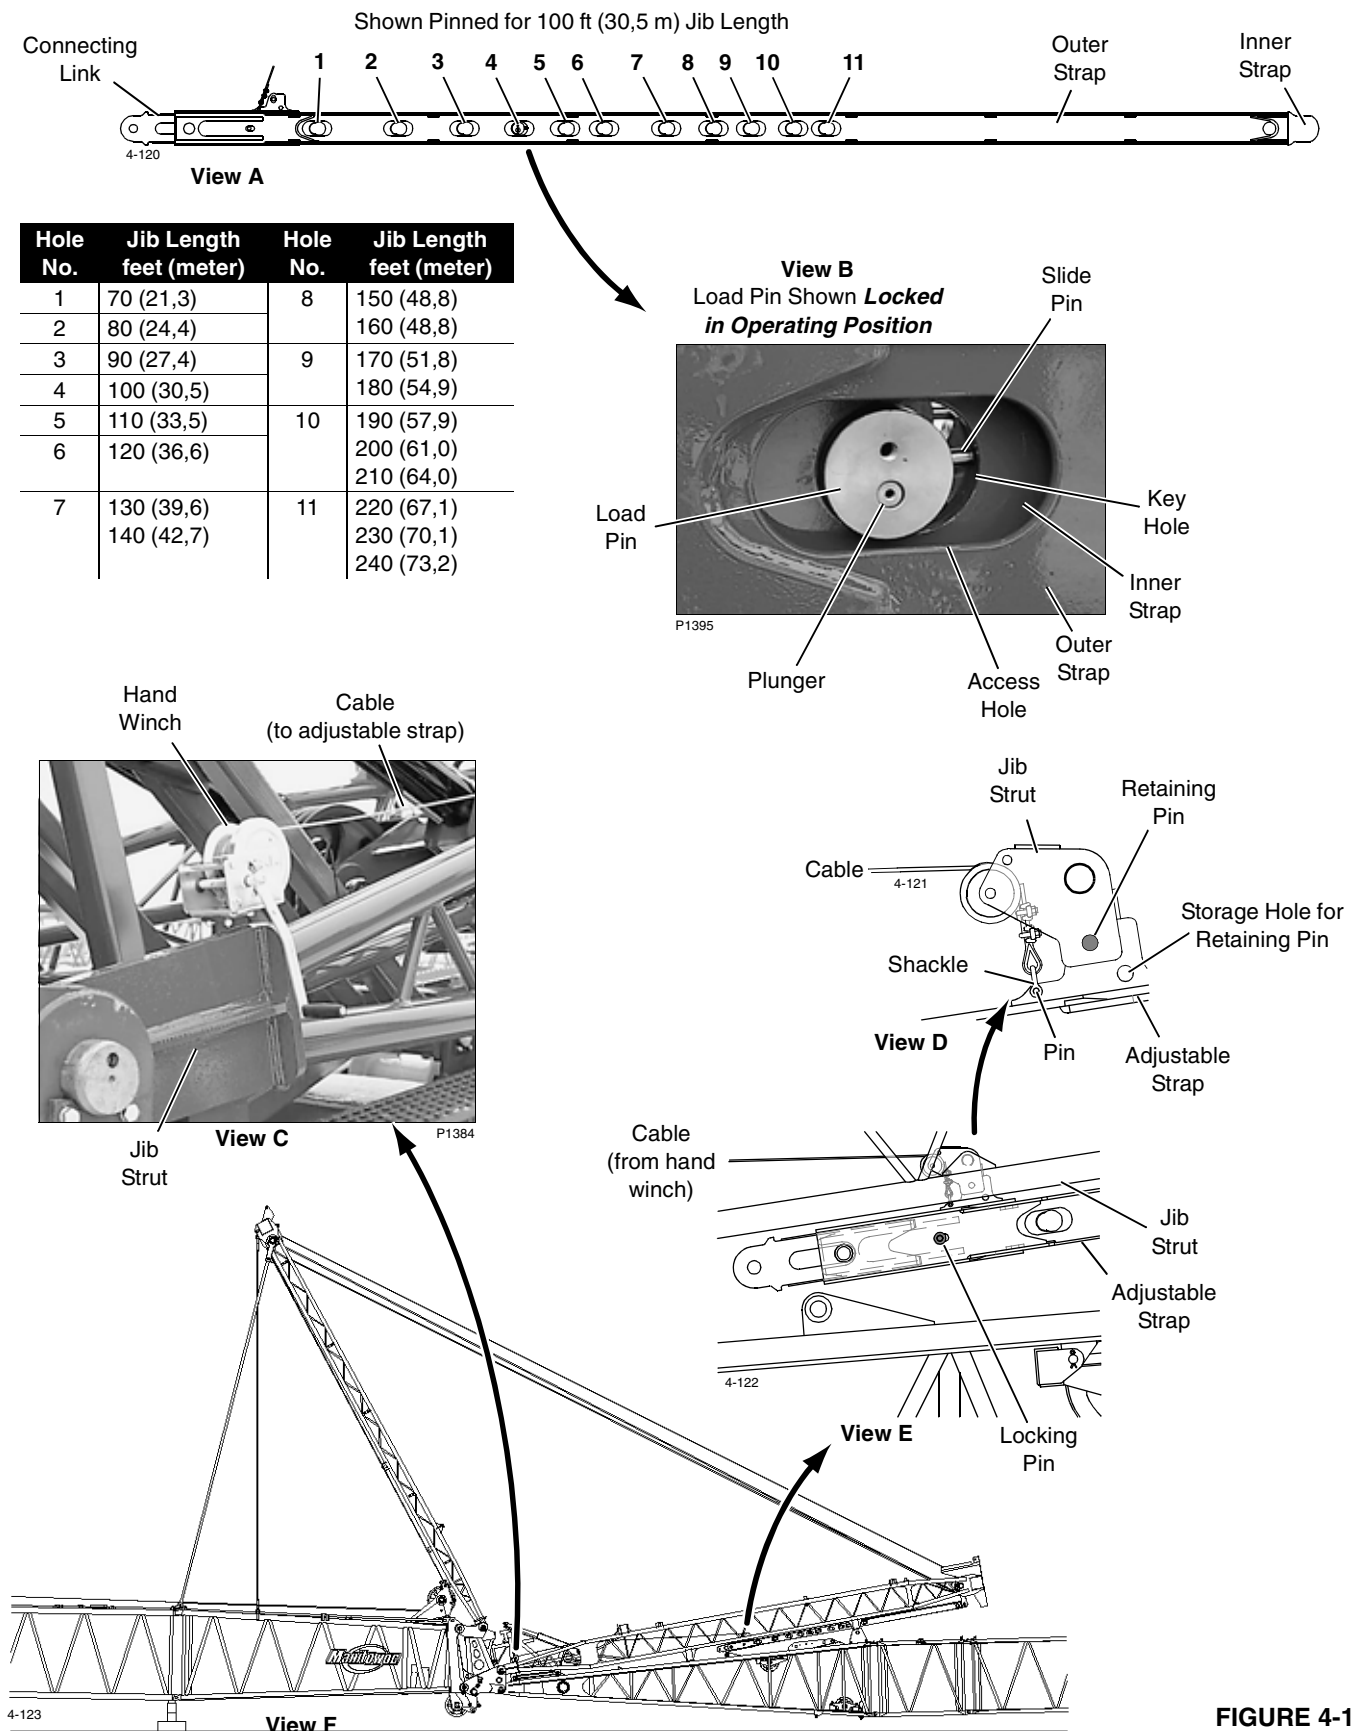

FIGURE 4-11
See Figure 4-11 for following procedure.
Install and lock load pins in proper holes of adjustable straps for jib length in use (Figure 4-11, View A)
Make sure adjustable strap locking pin is installed (Figure 4-11, View E) before raising jib strut.
1. Determine correct pinning location for adjustable strap based on jib length. (See View A and table in Figure 4-11).